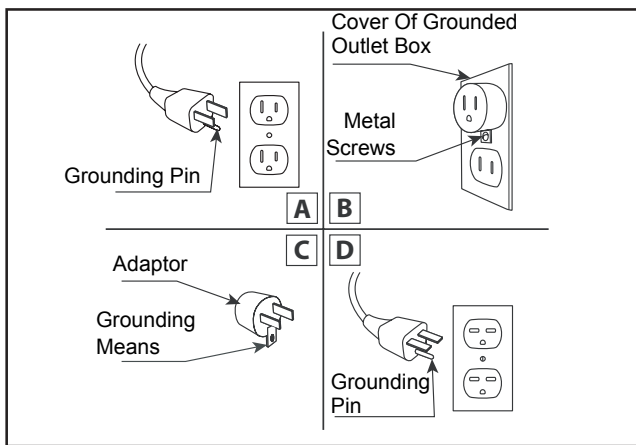

Fig. 1
23. See directions in Figure 1. This heater is for use on 120 volts. The cord has a plug as shown in figure 1. See Figure 1 for grounding instruction. An adaptor as shown at C is available for connecting three-blade grounding type plugs to two-slot receptacles. The green grounding plug extending from the adaptor must be connected to a permanent ground such as a properly grounded outlet box. The adapter should not be used if a three-slot grounded receptacle is available.